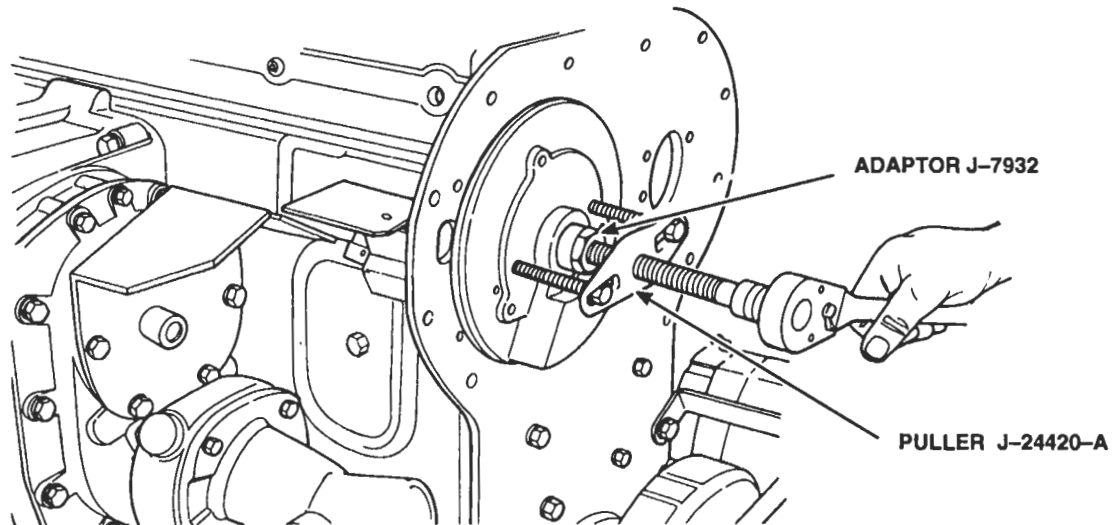

Figure 12. Pulse Wheel Removal
4. Use adaptor J7932 between the end of the camshaft and the pullet screw to protect the end of the cam (Figure 12.)